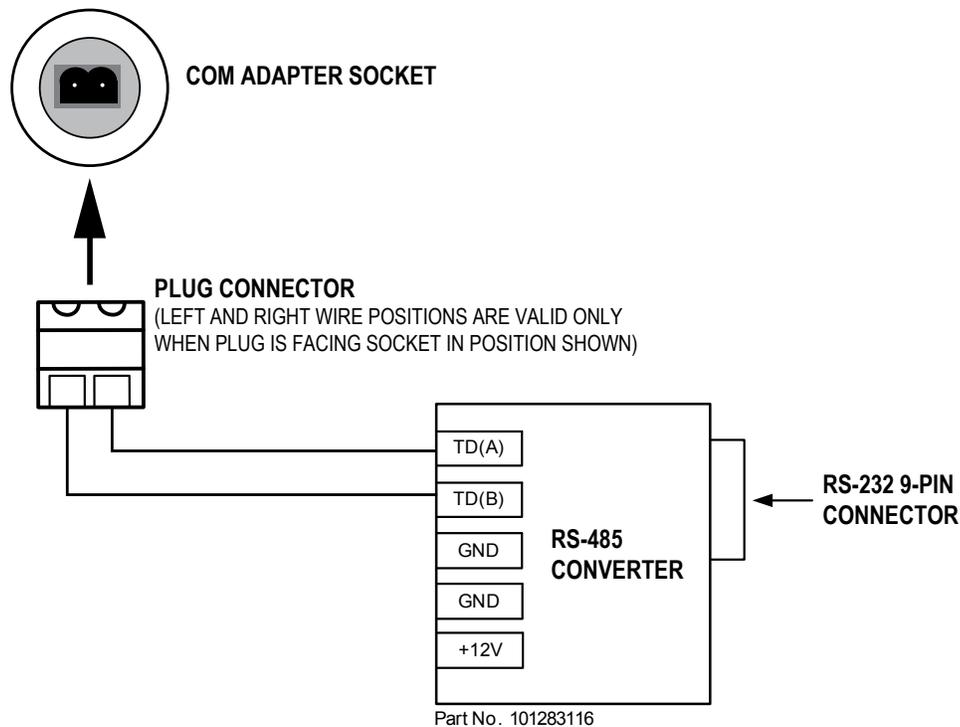

Figure A.9 - Wiring of plug connector to Sensia 9-pin RS-232 to RS-485 converter cable
The adapter is shipped pre-assembled in the Scanner 2000 when it is ordered with the unit. The installed adapter is comprised of an RS-485 adapter socket, a blanking plug, and a union nut. A plug connector that mates with the RS-485 adapter socket when the adapter is in use is shipped with the device (uninstalled). This plug connector should be wired to an RS-485 converter cable, and stored with the cable when the COM adapter is not in use. Wiring instructions for connecting the plug connector to an RS-485 converter cable are provided in Figure A.9, page A-5.
2. Connect the plug connector to an RS-485 converter cable, if it is not already attached (Figure A.9).